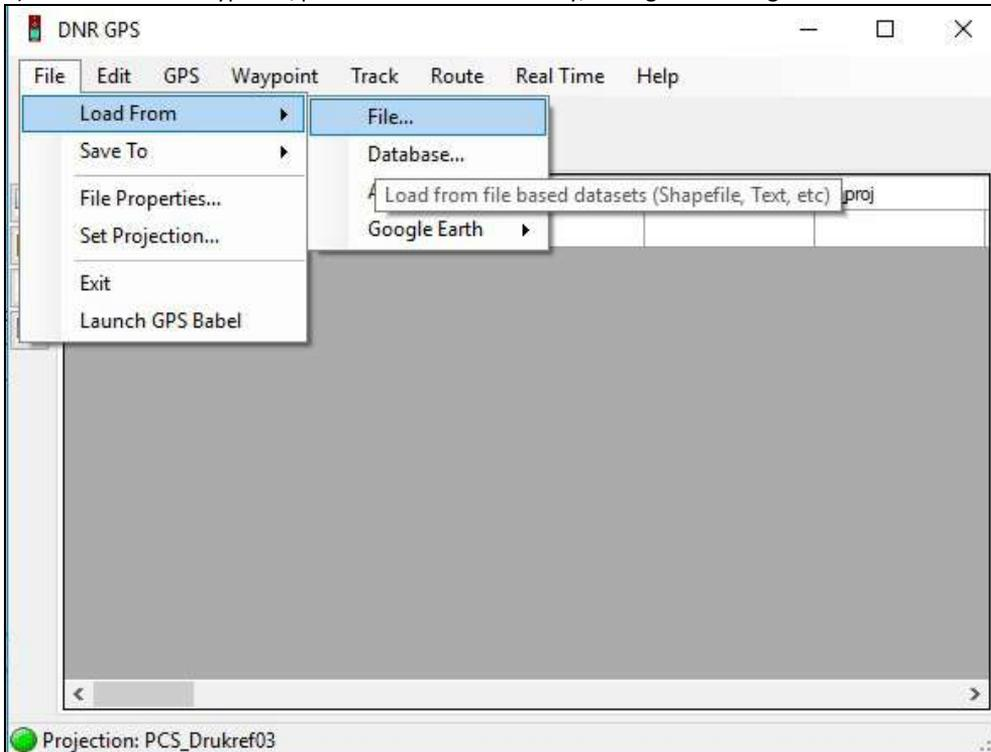

Figure 3e
d) Now load the waypoints/plots from the file directory, see figure 3e to 3g below.